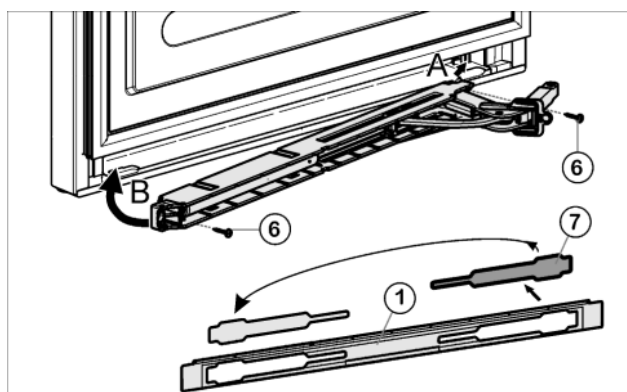

Fig. 9
- Remove the cover Fig. 9 (7) from the faceplate Fig. 9 (1) and re-insert it at the other side.
- Engage the soft stop unit with the joint pointing to the hinge side (A) and swivel into place (B).
- Screw down the soft stop unit (2x Torx® 15) Fig. 9 (6).